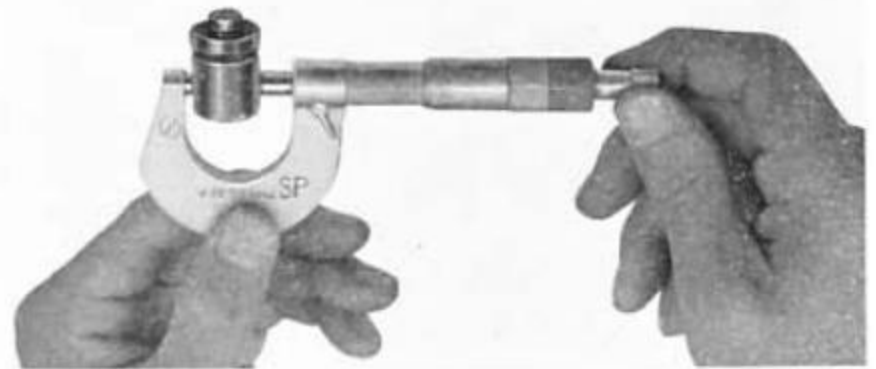

Fig. 5A-3
4. After separating the transmission from the engine, remove the bolts and washers attaching the cover to the flywheel and separate the clutch cover and friction disc from the flywheel (Fig. 5A-4).